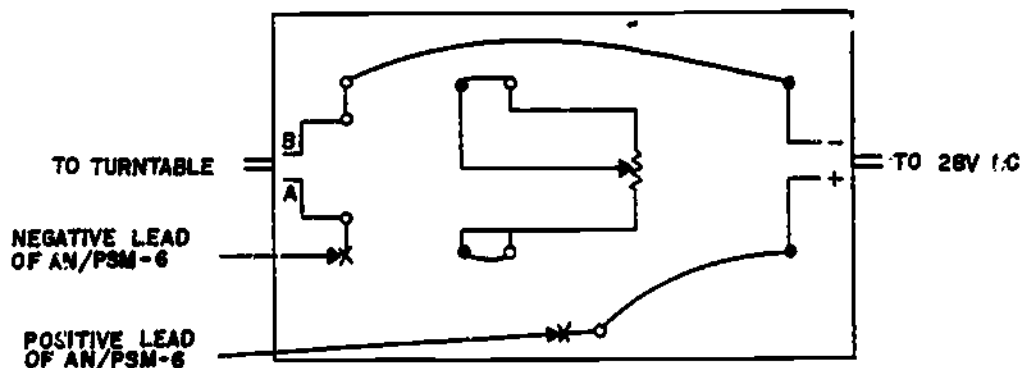

Figure 3. Power Control Panel Wiring Diagram.
(1) Wire the power control panel as shown in figure 3.
(2) Prepare the AN/PSM-6 for making DC current measurements. Be sure to start this check with the range selector set to 1,000. Connect the PSM-6 to the points indicated on the control panel in figure 3. Be sure to observe polarity.
(3) Connect the power plug on the control panel to the 28V DC outlet.